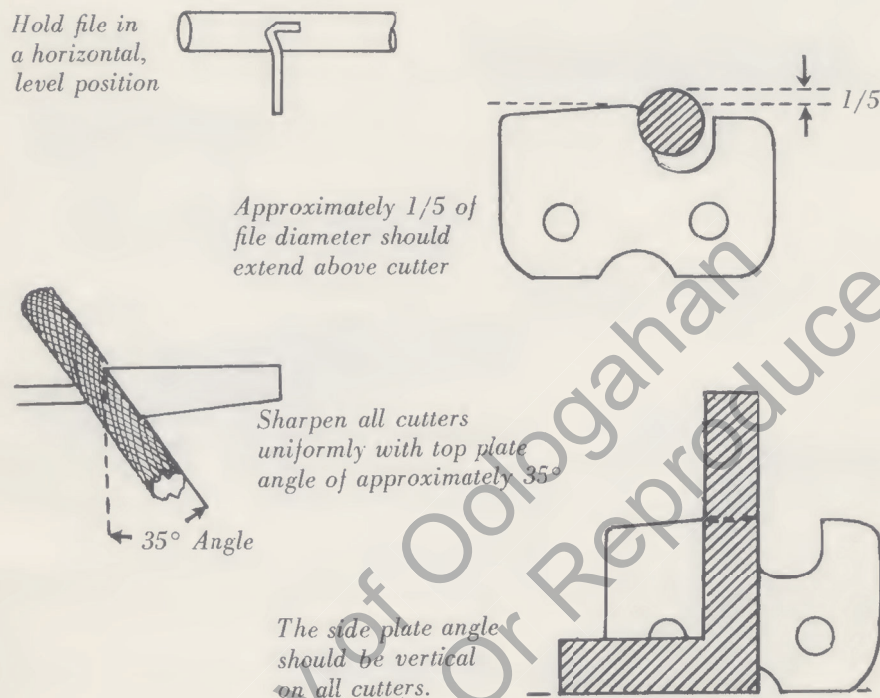

Figure 10—Chain Filing Hints
##### (2) KEEP SIDE OF CUTTING EDGE VERTICAL . . . MAINTAIN SAME TOP PLATE ANGLE (See figure 10)